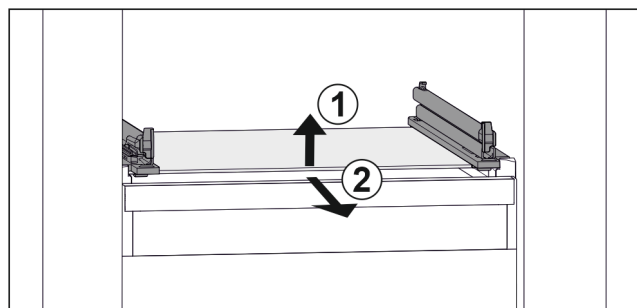

Fig. 76 Example illustration of glass shelf
- Lift glass shelf at the front. Fig. 76 (1)
- Take out glass shelf to the front. Fig. 76 (2)